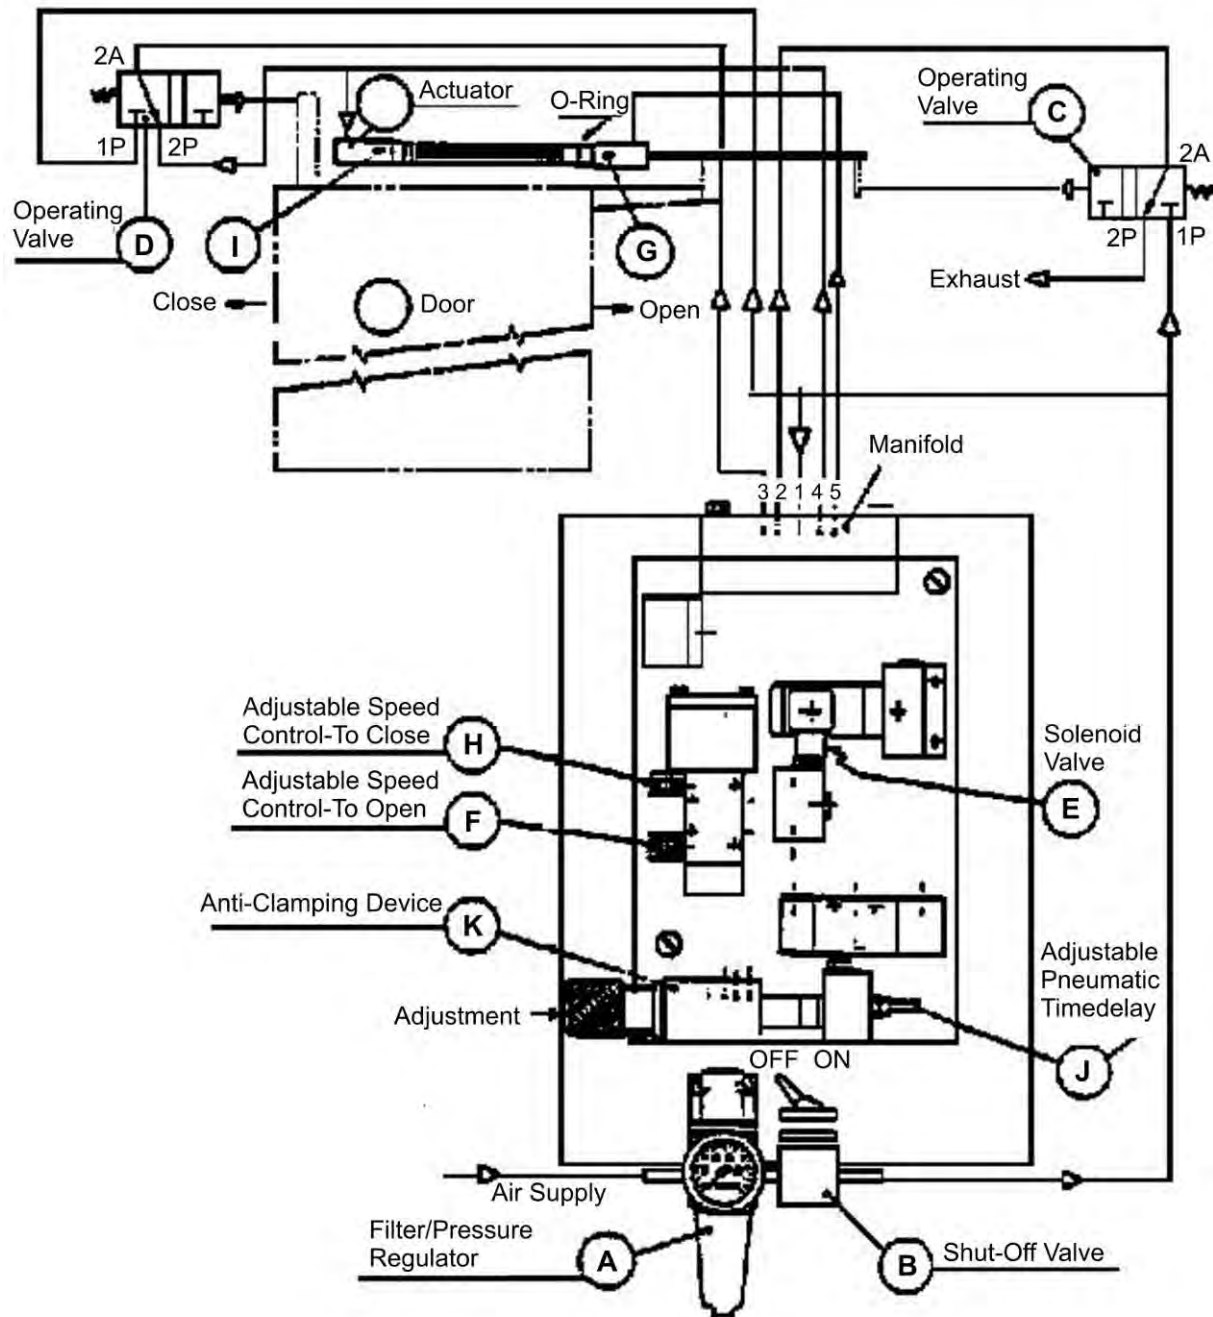
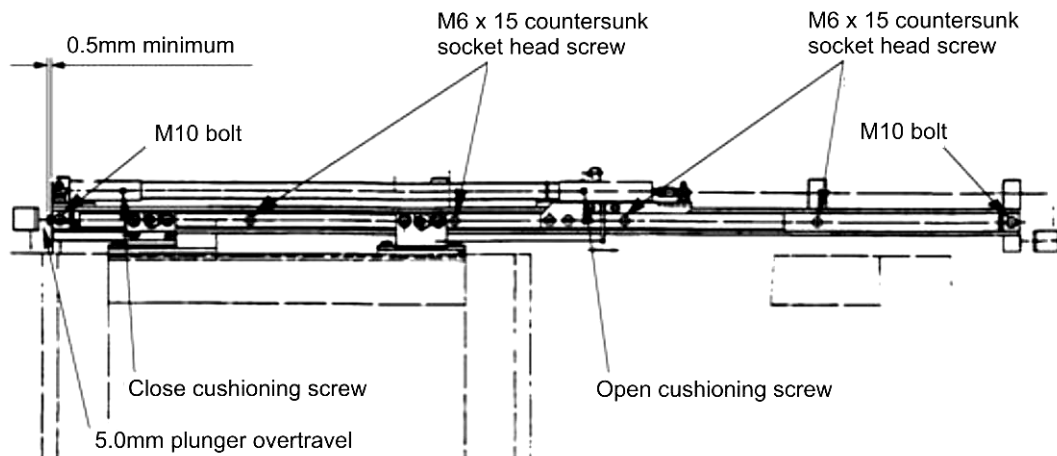

Figure 5: Tebel System
Figure 6: Door Guide Rail
- 3.1 Check that the door is running without excessive resistance to the rail by disconnecting the air supply to the system, connect a force measurement gauge tot the door handle, and measuring the resistance by opening and closing the door. Maximum force in either direction is 25N (see Figure 5).
- 3.3 Check that the shut off valve located on the bottom of main pneumatic control panel (see item B, Figure 5) when placed in the 'OFF' position the door closes, and that in the 'ON' position the door opens.
- 3.5 Check that the speed of the door slows gradually during the last part of the open movement until the door stops without slamming and the operating valve plunger (see item C Figure 5) has been reached.
- 3.8 Check that the closing speed reduces during the last part of the closing movement until the door stops without slamming and the operating valve plunger (see item D Figure 5), has been reached.
- 3.10 Isolate the door air supply by putting the shut off valve (see item B Figure 5) switch to the 'OFF' position and check that the door opens and closes freely. Return the switch to the 'ON' position.
The guide rail is secured to the vehicle with two M10 bolts one on each end of the rail, these also secure the end stops for the opening and closing position. In addition there are also four M6 x15 countersunk socket head securing screws along the length of the rail (see Figure 6). Check the horizontal deflection over the length of the guide rail. If the deflection exceeds 1mm add or remove shims behind each of the four M6 x 15 hexagon screws along the length of the rail, so that the deflection is less than 1mm (see Figure 6). After adjustment, tighten the M6 countersunk screws (see Torque Figures item 1) and the M10 bolts (see Torque Figures item 2).
Adjustment is made through lengthening or shortening the piston rod by means of the ball joint connection. After adjustment of the ball joint the locknut must be torque tightened (see Torque Figures item 3) (see Figure 5).
Close the door and check the clearance between the 'O' ring seal and the support (minimum 0.5mm) (see Figure 6).
- 3.4 The open speed can be adjusted with the speed adjustment screw (see item F Figure 5). Turn to the left = slower, turn to the right = faster.
- 3.5 Adjust cushioning with the screw in the right hand cylinder end cap (see item G Figure 5 and reference Figure 6). Screw the adjuster in (clockwise) and give $\frac{1}{8}$ th turn to the left.
Isolate the air supply from the system (shut off valve) (see item B Figure 5) and close the door by hand. Adjust the valve by hand so there is 5mm over travel left on the plunger, see Figure 6. Tighten the M5 fastening screws (see Torque Figures item 4).
- 3.6 Adjust closing time delay valve screw (see item J Figure 5).
- 3.7 The closing speed can be adjusted with the close speed adjustment screw (see item H Figure 5) turn to the left = slower, turn to the right = faster.
- 3.8 Adjust cushioning with screw in the left hand cylinder end cap (see item I Figure 5 and reference Figure 6). Screw the adjuster in (clockwise) and then give $\frac{1}{8}$ th turn to the left.
- 3.9 Adjust anti-clamping device (see item K Figure 5) to increase time, turn anti-clockwise and to decrease time turn clockwise